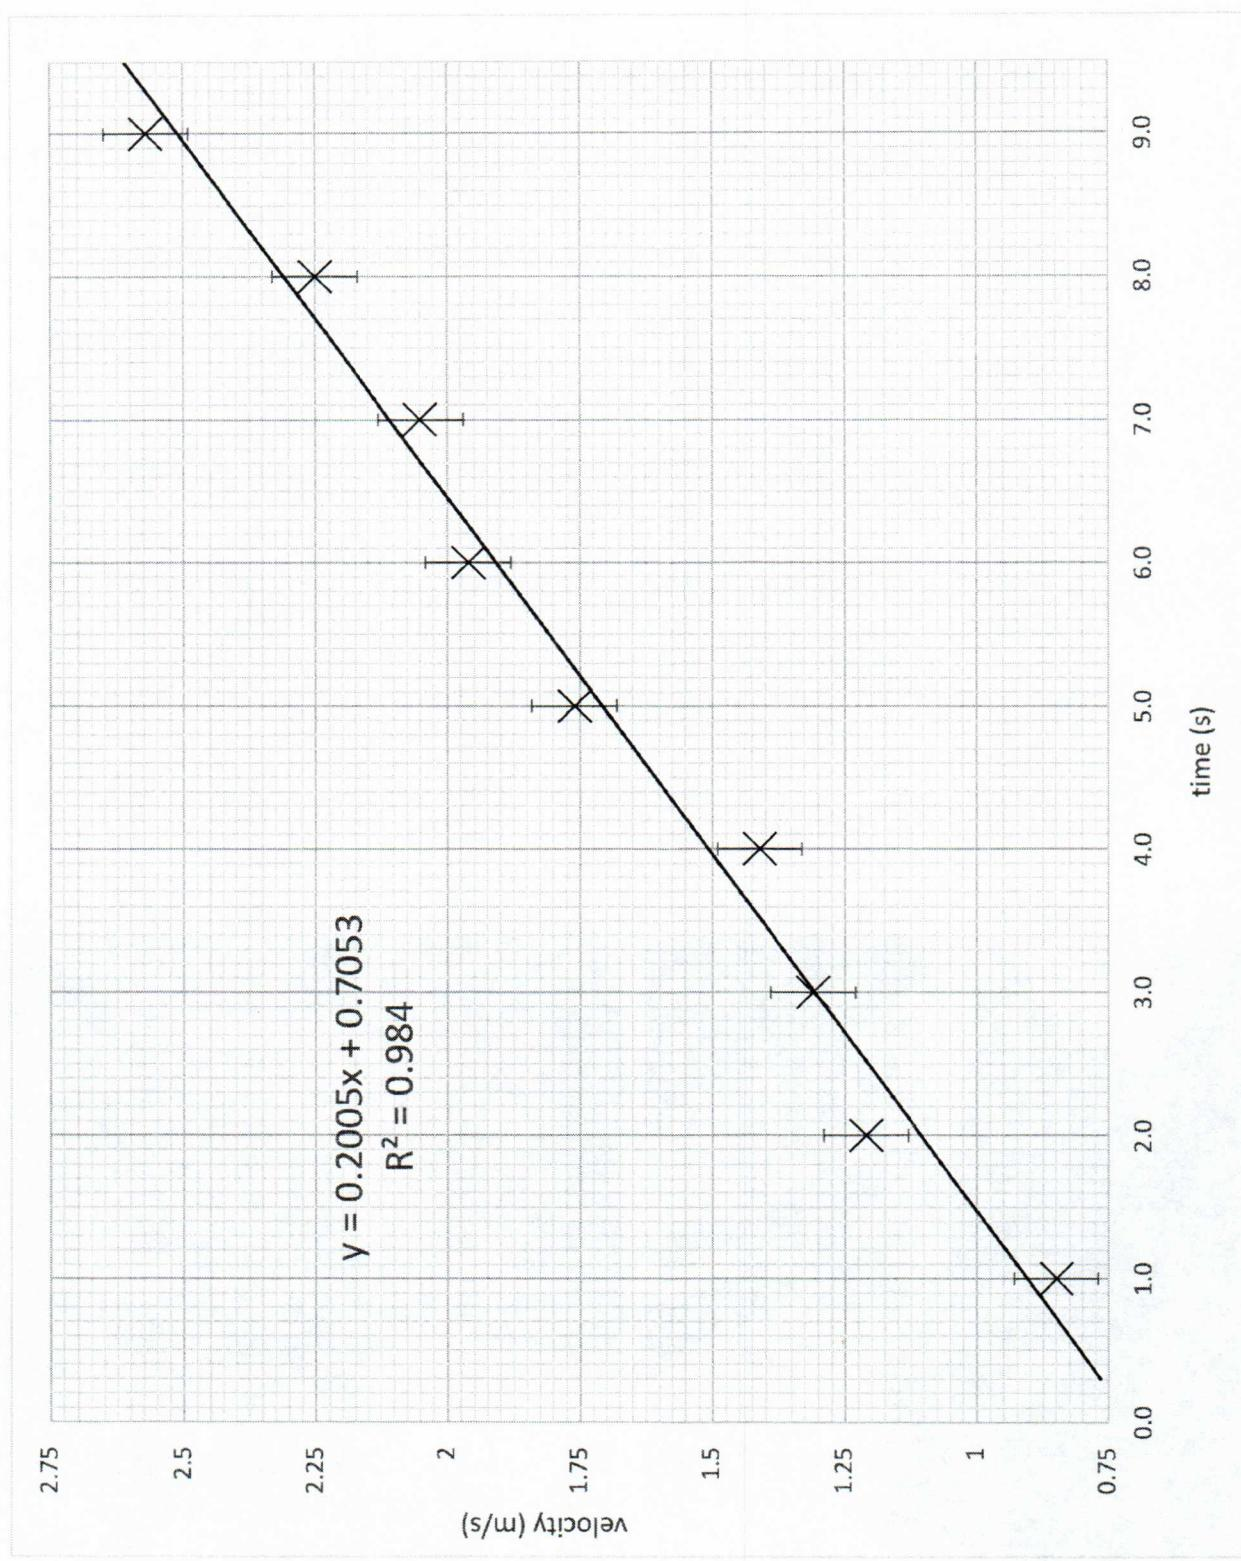

Figure C.6 The final, properly formatted graph to be turned in.
*Denotes for Excel graphs only, see Figure C.6.